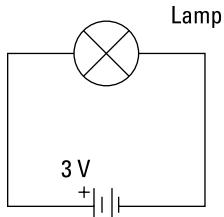

Figure 1-1:
For example, Figure 1-1 shows a simple circuit that includes two components: a battery and a *lamp* – which is the electrical engineer’s term for what is more commonly known as a light bulb. The circuit allows current to flow from the battery to the lamp, through the lamp and then back to the battery. Thus, the circuit forms a complete loop.
- ✓ **Voltage source:** A voltage source causes current to flow. In Figure 1-1, the voltage source is the battery.
In Figure 1-1, the two lines that travel between the battery and the lamp represent the conductive path. This path can be intricate in a complex circuit, but it must still form a loop from the negative side of the voltage source to the positive side.
Imagine electric current flowing through a circuit from the positive side of the voltage source to the negative side, because this is usually how you visualise a circuit when you study it. For example, in Figure 1-1, think of the current as